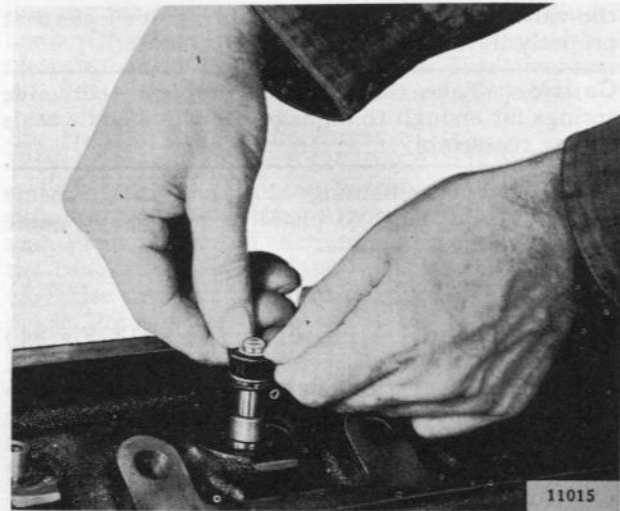

FIG. 124—SLIDING SEAL DOWN TO VALVE GUIDE
- e. Use two thumbs, as shown in Fig. 124, to hold the insert in place until the seal touches the top of the valve guide. Remove the plastic cap.